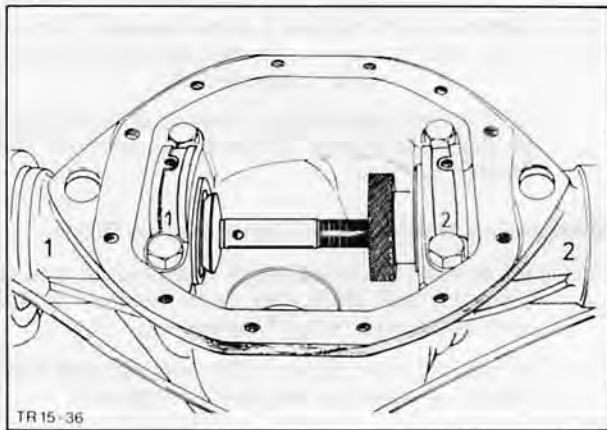

Fig. 34. Gauge bar located in rear axle casing
17. Insert gauge bar with bearings to be fitted and adjusting nuts in casing, Fig. 34. Fit bearing cap (numbers coincide) and secure to specified torque, slacken again and do up finger-tight.